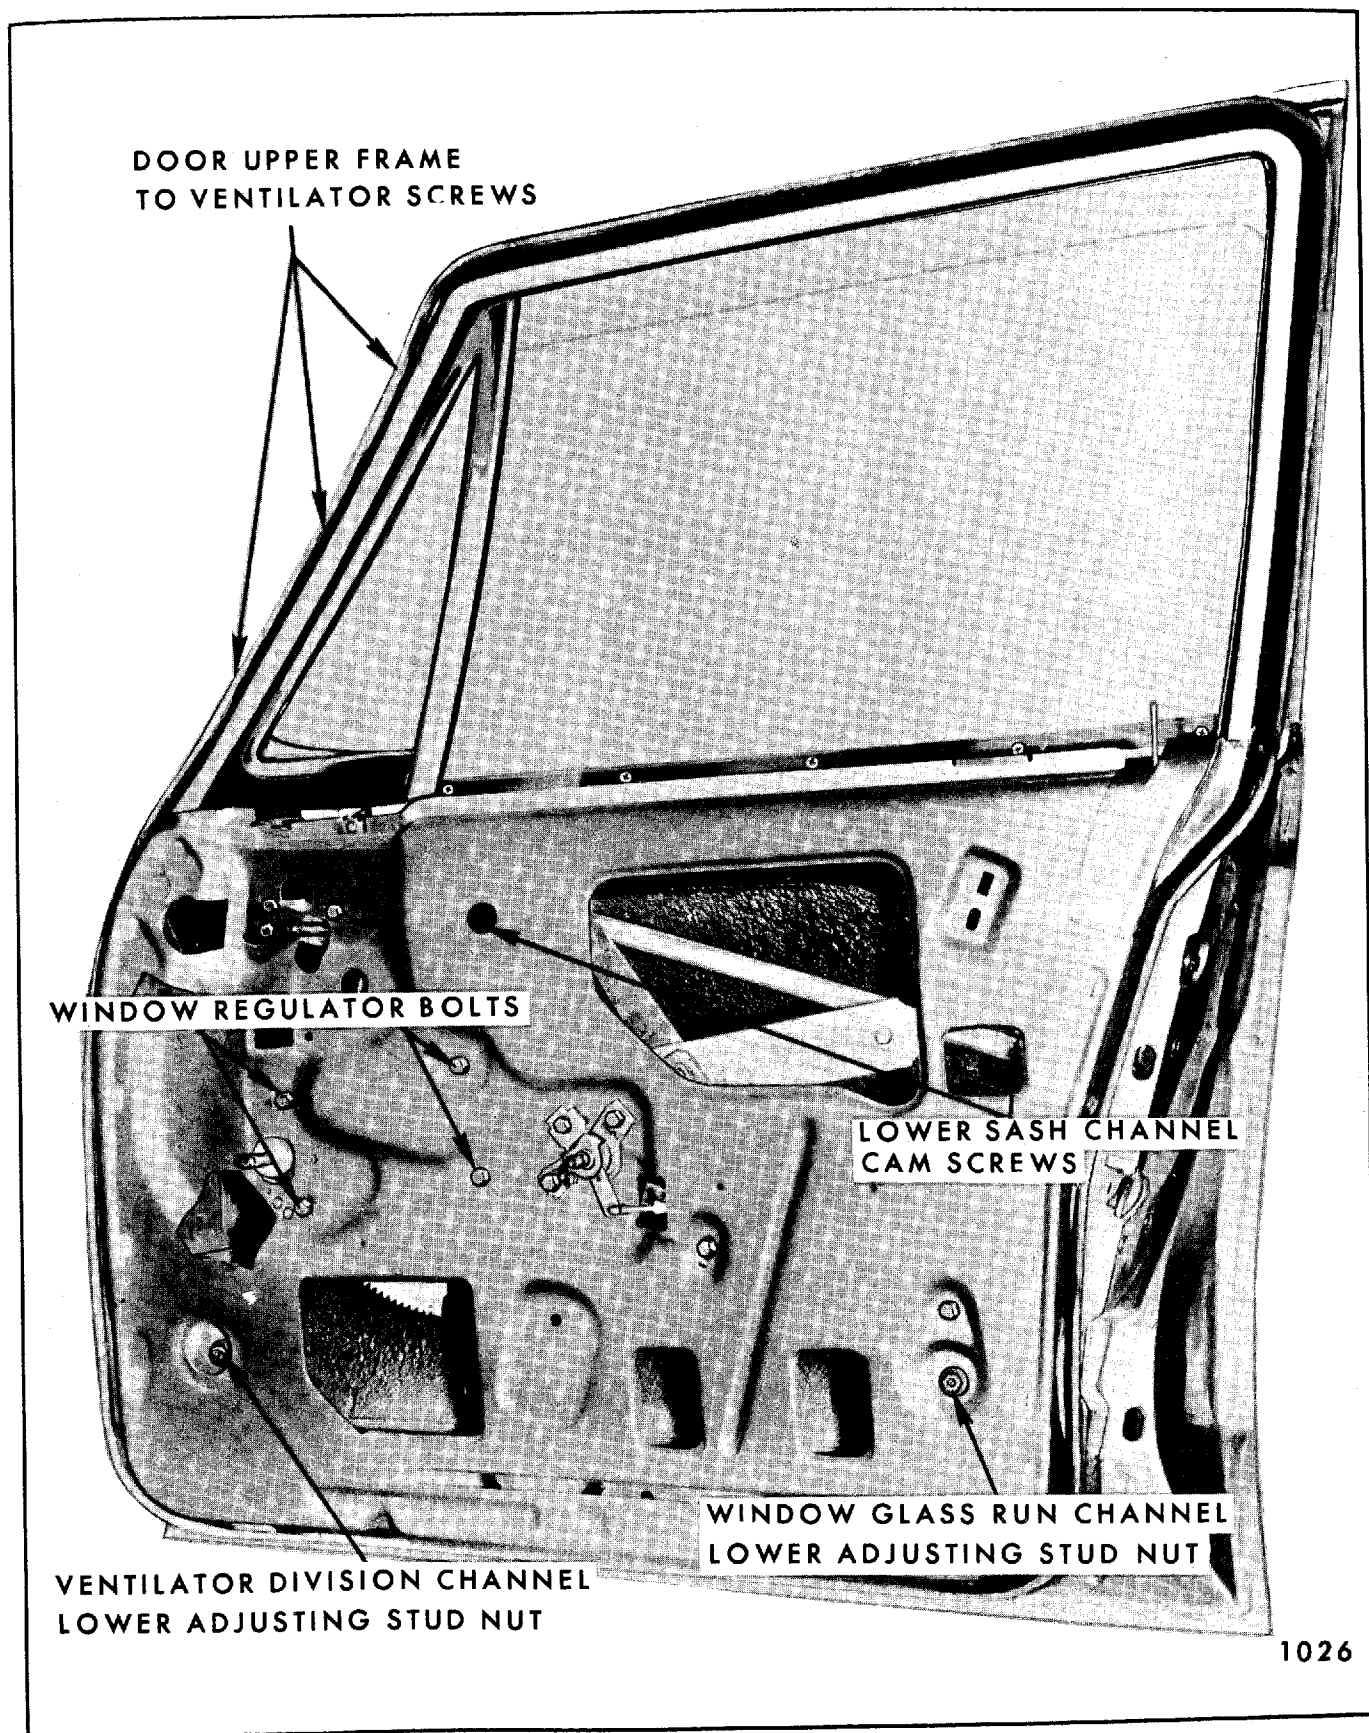

Fig. 7-73—Door Ventilator and Regulator Attachment - - "B & C" Closed Styles
3. Remove glass run channel lower adjusting stud nut (Fig. 7-73).